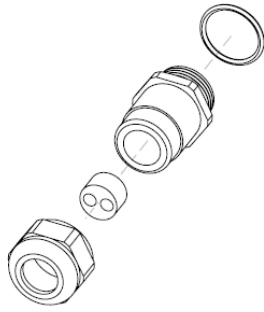

Figure 5 The XT-1 M20 cable gland with insert for 2 cables
1. Select and use the M20 cable gland insert corresponding to the number of cables required. The cable gland can be used with one cable (6-12 mm) or by using the supplied insert with two cables (2-6 mm), see Figure 5.